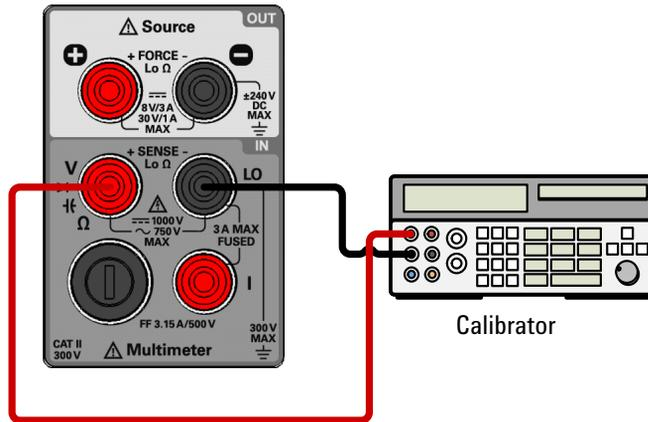

Figure 5-2 Test setup for DC voltage, AC voltage, resistance, and capacitance gain verification
- 1 Connect the calibrator to the front panel **V** (red) and **LO** (black) input terminals (see Figure 5-2 on page 147).